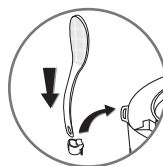

Fig.2
- Install the spoon support: insert the plastic hook of the support in the hole located under product ring, and slide it downwards – Fig.2.